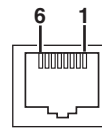

Figure 1 (Do not use telephone wires.)
- 1 Connect the RS-485 terminal on the rear panel of the DVR with the system controller (Figure 1).
**1** Connect the VIDEO IN terminal on the rear panel of the DVR to a remotely controllable dome camera using a coaxial cable. (Figure 1)